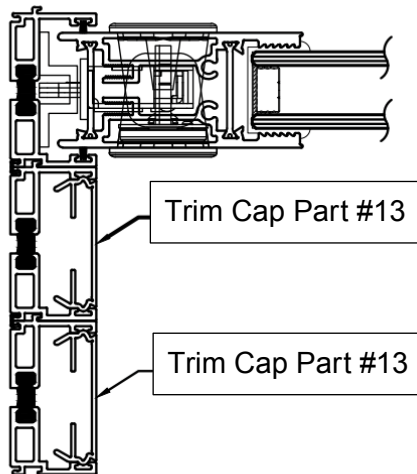
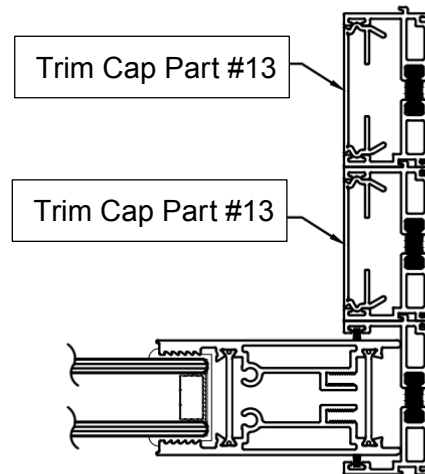

FIGURE 18A
FIGURE 18B
23. Install the longest trim cap pieces (Part #13) into the exterior and center jamb tracks (Part #7) on the operable side as shown in figure 18a then install the other two trim caps that are the same length into the interior and center jamb tracks shown in figure 18b.